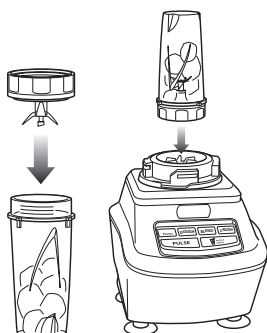

Fig. 1 Fig. 2
- 4 Place the Nutri Ninja blade onto the cup and screw it tightly until you have a good seal. **(Fig. 1)**